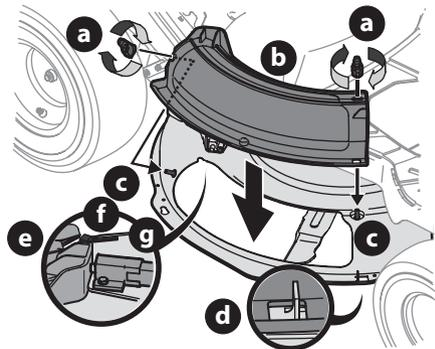

Figure 12
1. Remove the wing knobs (a) installed on the mowing deck and retain for later installation (Figure 12).
2. Install the mulch plug (b) into the deck discharge opening on the deck. The rear of the mulch plug (b) should be under the tab (f) on the rear deck bracket (g). The studs (c) on the deck surface will fit through the holes on the upper portion of the mulch plug (b). The small tab (d) on the deck lip area will fit through the square cutout on the lower portion of the mulch plug (b) (Figure 12).
NOTE: Make certain that the upper-rear portion of mulch plug (b) is depressing the safety switch (e) located on the deck surface and under the tab (f) on the rear deck bracket (g). The engine will not start without the mulch plug (b) properly in place (Figure 12).
3. Secure the mulch plug (b) by tightening the wing knobs (a) removed in Step 1 (Figure 12).